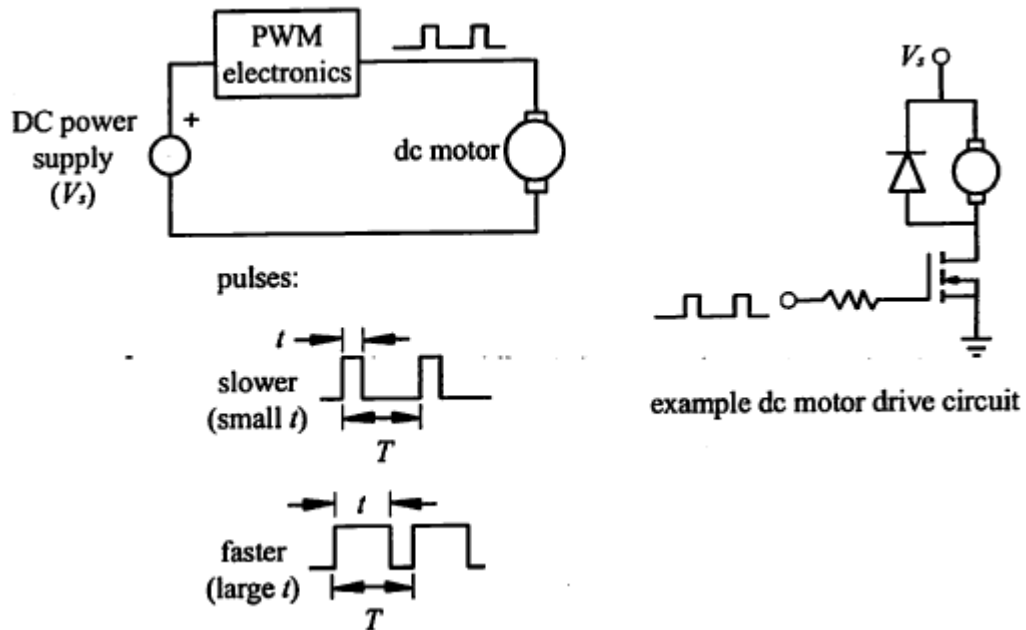

Figure 14.1 Pulse-width Modulation (PWM)
**Pulse width modulation (PWM)** offers a very simple way to control the speed of a dc motor and is one of the building blocks of a DC->AC inverter. Figure 14.1 illustrates the principles of operation of PWM control. A dc voltage is rapidly switched at a fixed frequency  $f$  between two values ("ON" and "OFF"). A pulse of duration  $t$  occurs during a fixed period  $T$ , where  $T = \frac{1}{f}$ . The resulting asymmetric waveform has a **duty cycle** defined as the ratio between the ON time and the period of the waveform, usually specified as a percentage: